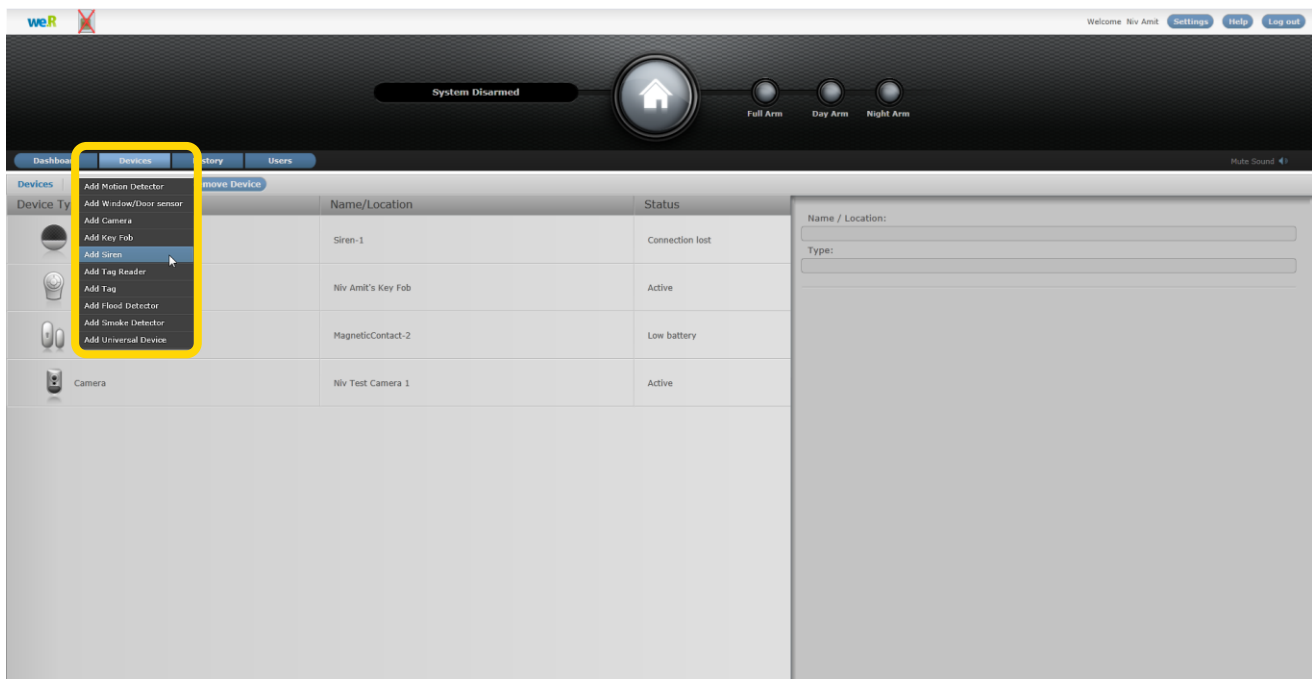

Figure 95: Add Siren Device Utilizing Web Application
5. Click over the **Add Siren** option of the menu as illustrated in Figure 95 above: